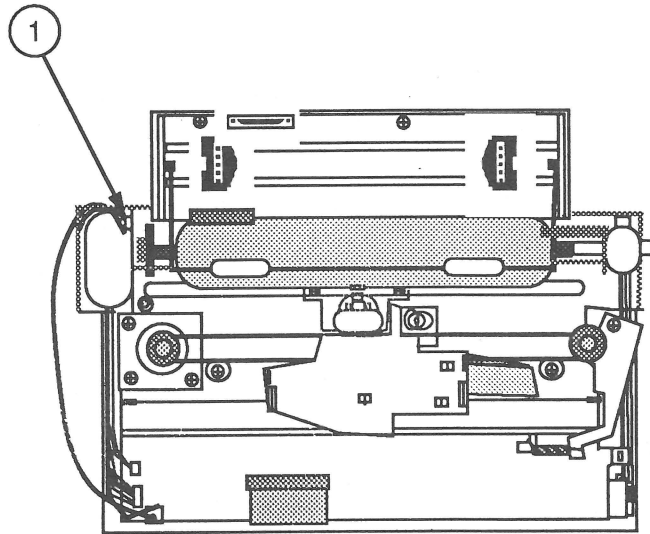

FIGURE 12
12. Remove the old mechanical paper-sensor ground screw (Figure 12, #1) from the left platen bushing plate and discard the screw.